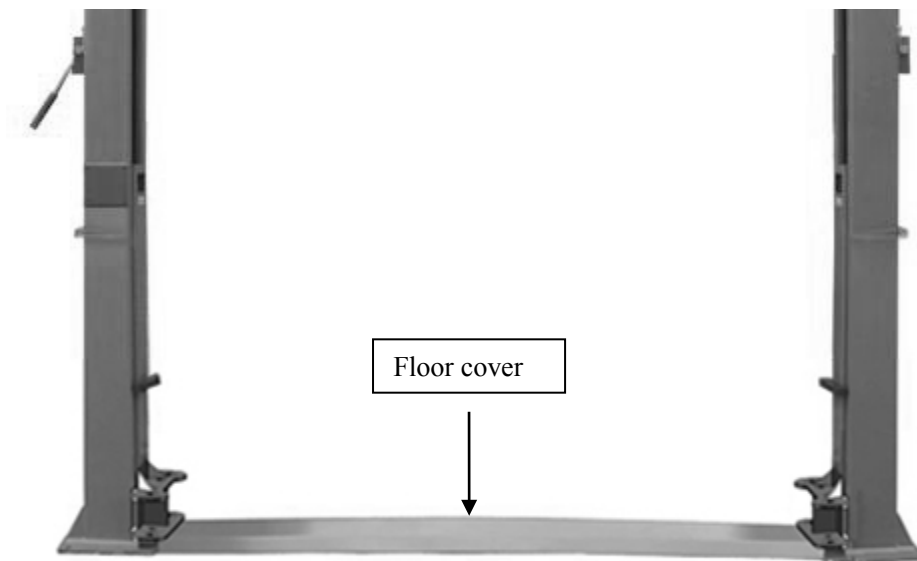

Fig. 22
M. Install floor cover (See Fig. 22).